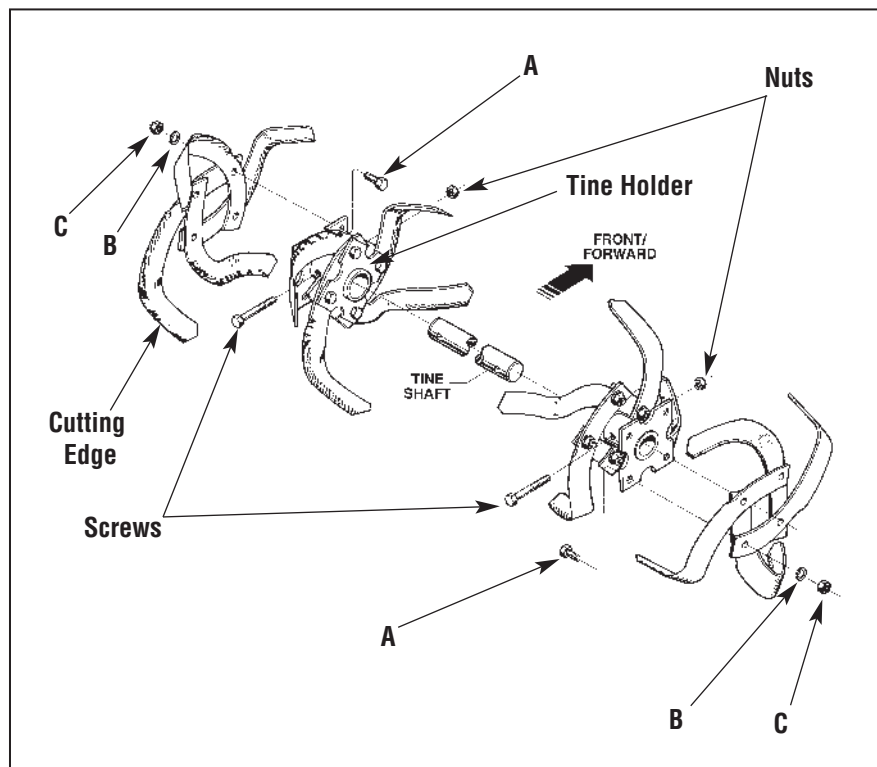

Figure 2: Install tines so that cutting edge of tines enter soil first when tiller moves forward.
NOTE: Removing the tine holders from the tine shaft may ease the installation of your new bolo tines, but is not necessary. To do so, remove the screw and nut which secure the tine holder to the tine shaft, refer to Figure 2.
3. Use two 9/16-inch wrenches to remove the two screws (A, Figure 2), lockwashers (B) and nuts (C) that attach a single tine to a tine holder. If needed, use penetrating oil on the nuts.
6. Loosely fasten the new tine with the screws, lockwashers and lock nuts included in this kit. Refer to Figure 2.